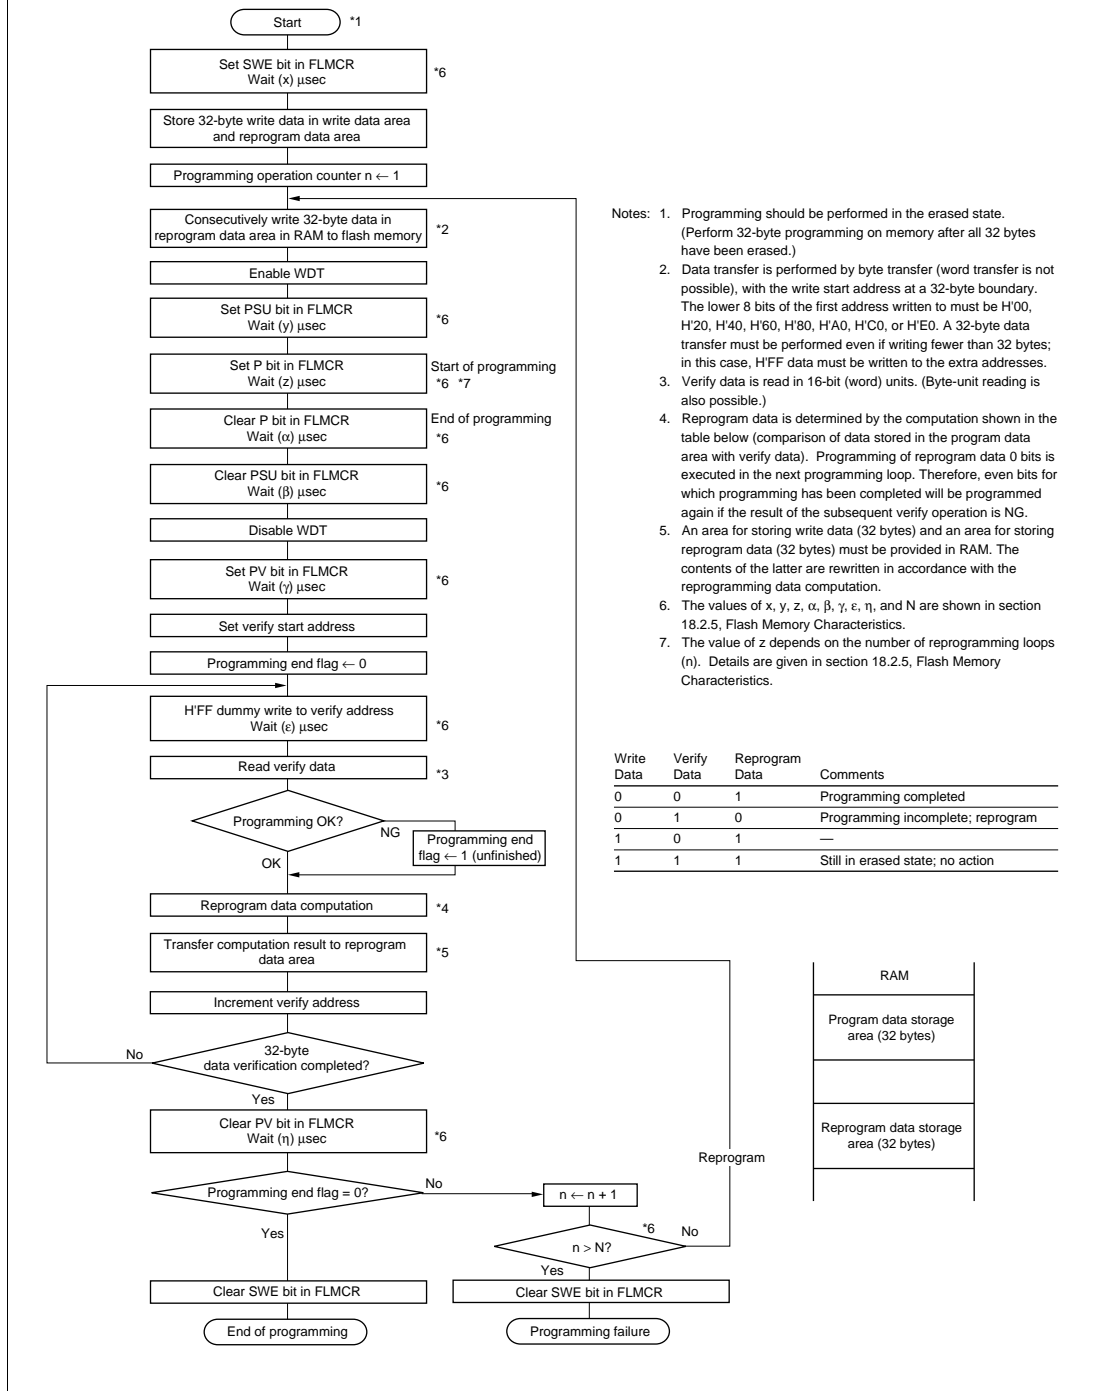

Figure 15-11 Program/Program-Verify Flowchart
Follow the procedure shown in the program/program-verify flowchart in figure 15-11 to write data or programs to flash memory. Performing program operations according to this flowchart will enable data or programs to be written to flash memory without subjecting the device to voltage stress or sacrificing program data reliability. Programming should be carried out 32 bytes at a time.
Clear the P bit in FLMCR, then wait for at least (α) μs before clearing the PSU bit to exit program mode. After exiting program mode, the watchdog timer setting is also cleared. Then the operating mode is switched to program-verify mode by setting the PV bit in FLMCR. Before reading in program-verify mode, a dummy write of H'FF data should be made to the addresses to be read. The dummy write should be executed after the elapse of (γ) μs or more. When the flash memory is read in this state (verify data is read in 16-bit units), the data at the latched address is read. Wait at least (ϵ) μs after the dummy write before performing this read operation. Next, the originally written data is compared with the verify data, and reprogram data is computed (see figure 15-11) and transferred to RAM. After verification of 32 bytes of data has been completed, exit program-verify mode, wait for at least (η) μs , then determine whether 32-byte programming has finished. If reprogramming is necessary, set program mode again, and repeat the program/program-verify sequence as before. However, ensure that the program/program-verify sequence is not repeated more than (N) times on the same bits.